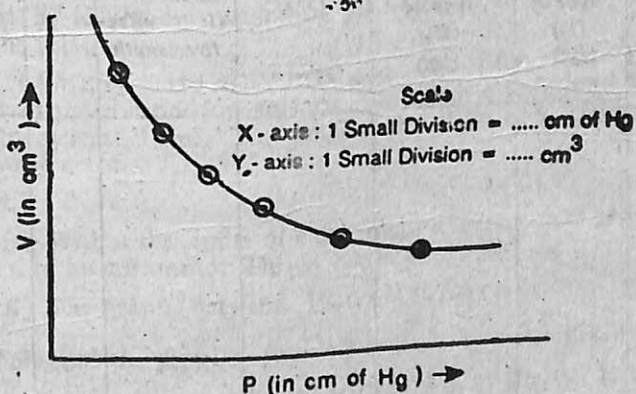

Fig. 25.4.
9. Plot a graph between P and V, taking P along X-axis and 'V' along Y-axis which will be a parabola (Fig. 25.4).